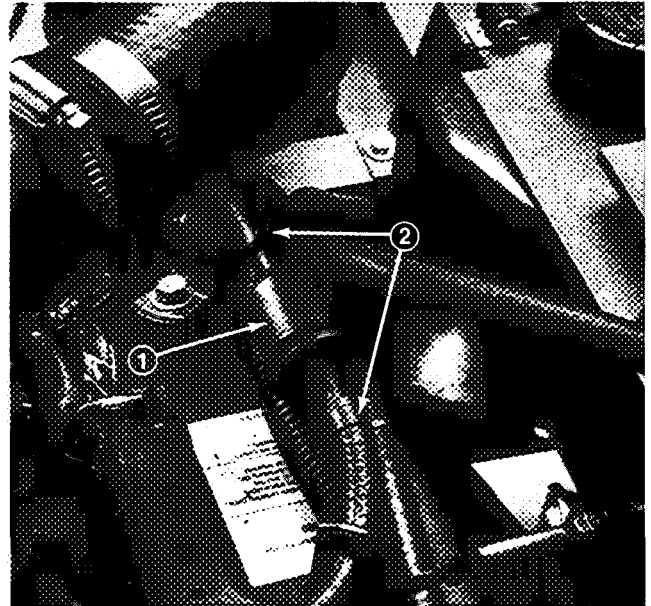

Figure 37
1. Clamp both fuel lines that connect to the fuel filter (Fig. 37) so gasoline cannot drain when lines are removed.
2. Loosen the hose clamps (Fig. 37) at both ends of the filter, pull fuel lines off and discard filter.